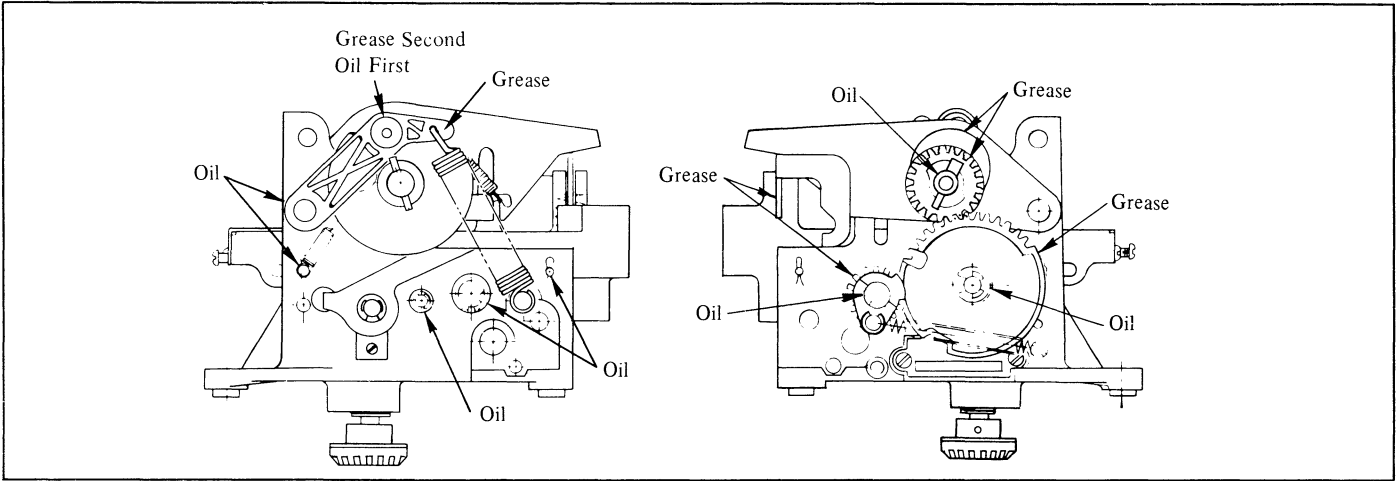

Figure 7. Lubrication Points - Zero Start Printer
**D. LUBRICATION POINTS** (Figures 7 to 10).
2. Apply recommended or equivalent grease to bearing and mating surfaces of all bevel gears, drive gears, reset gears, wheel ratchets, ticket tray, shafts, studs, and bosses according to Figures 7 to 10.